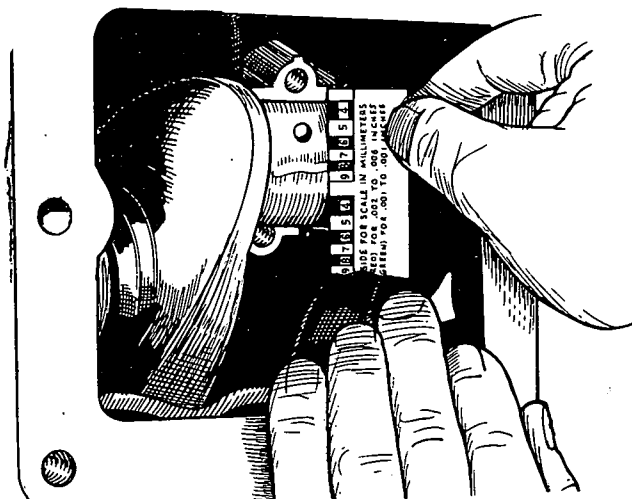

FIGURE 35. MEASURING BEARING CLEARANCE
2. Place a piece of correct size Plastigauge in the bearing cap the full width of the crankshaft rod surface about 1/4 inch off center (Figure 35).